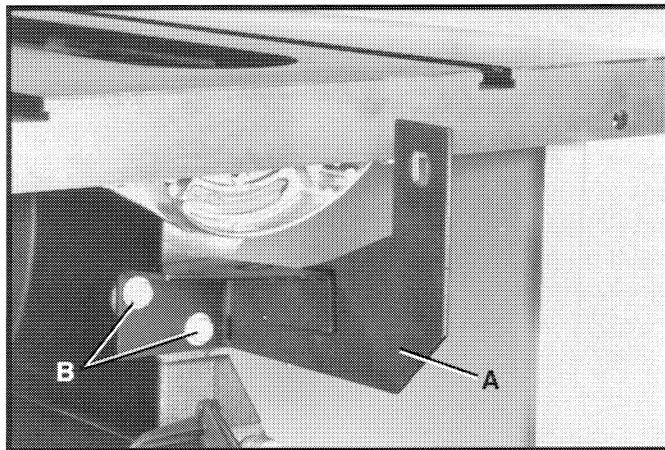

Fig. 21
1. Fasten the rear splitter mounting bracket (A) Fig. 21, to the rear trunnion using two 5/8" long hex head cap screws (B) and 1/4" I.D. flat washers. Do not completely tighten cap screws (B) at this time.